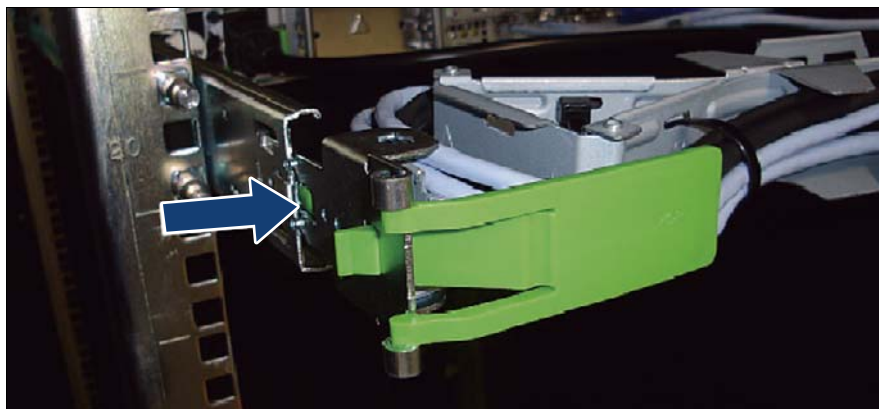

Figure 31: Unlocking the CMA stopper
- ▶ Push the lock spring inward to unlock the CMA stopper (see figure 31).